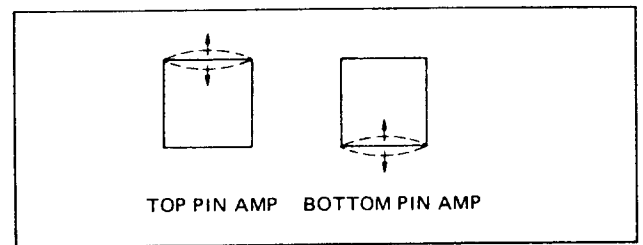

Fig. 2-6-5
- 3) Adjust the lateral line horizontally with **TOP AMP** RV106 and **BOT AMP** RV104 as shown in Fig. 2-6-5.